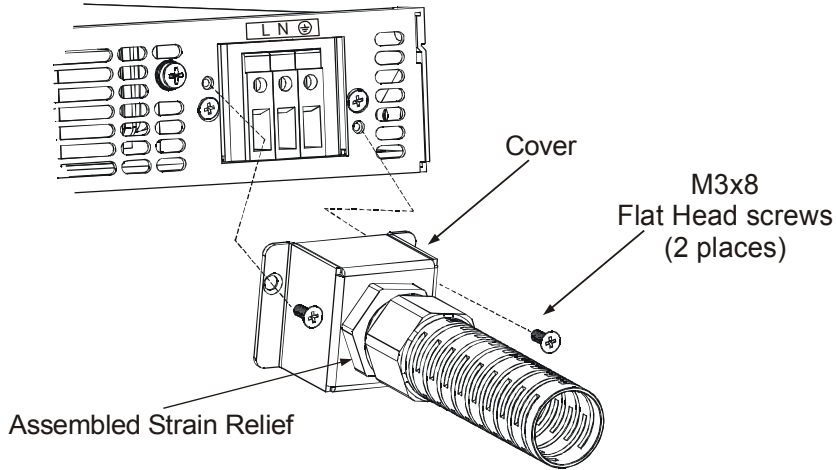

Fig.3-3: AC input cover and strain relief, 1500W models
5. Route the wires inside the cover to prevent pinching. Fasten the cover to the unit using the M3x8 Flat Head screws provided. Refer to Fig.3-3 for details.